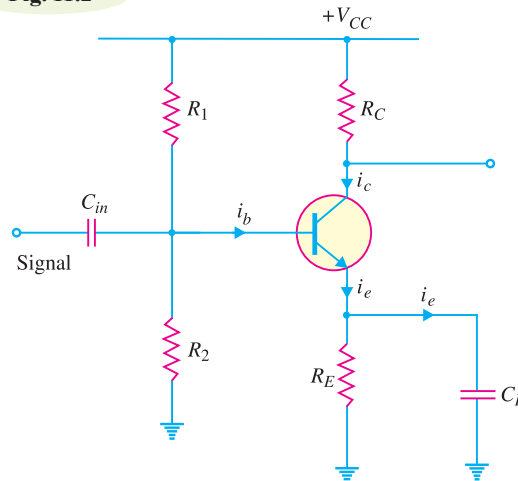

Fig. 11.3
2. As bypass capacitors. Like a coupling capacitor, a bypass capacitor also blocks d.c. and behaves as a short or wire (due to proper selection of capacitor size) to an a.c. signal. But it is used for a different purpose. A bypass capacitor is connected in parallel with a circuit component (e.g. resistor) to bypass the a.c. signal and hence the name. Fig. 11.3 shows a bypass capacitor C_E connected across the emitter resistance R_E . Since C_E behaves as a short to the a.c. signal, the whole of a.c. signal (i_e) passes through it. Note that C_E keeps the emitter at a.c. ground. Thus for a.c. purposes, R_E does not exist. We have already seen in the previous chapter that C_E plays an important role in determining the voltage gain of the amplifier circuit. If C_E is removed, the voltage gain of the amplifier is greatly reduced. Note that C_{in} is the coupling capacitor in this circuit.